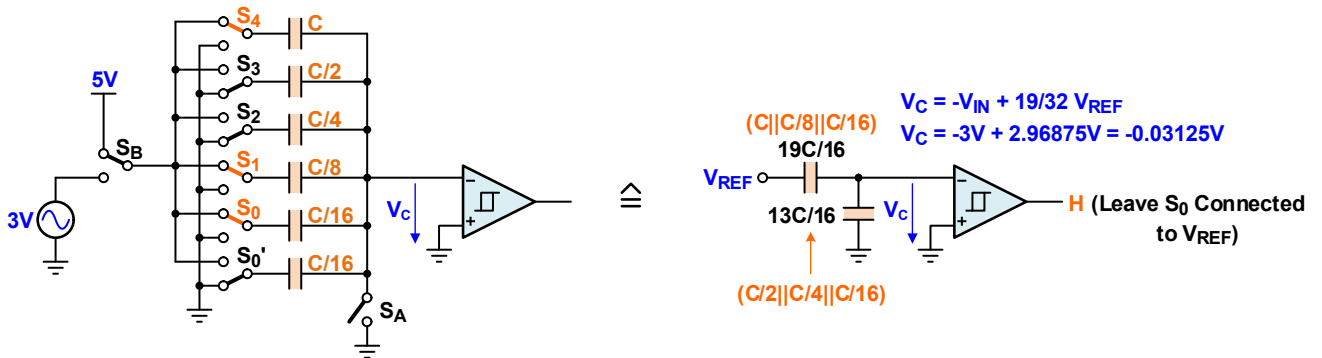

Figure 11. Bit 0: Because  $V_O = H$ , Bit 0 = 1. Therefore,  $S_0$  Must Remain in its Current Position
**Bit 0:** The fifth conversion step determines Bit 0 by connecting  $C/16$  to  $V_{REF}$  using  $S_0$ . The divider ratio changes to  $X = 19/32$ , causing a comparator input of  $V_C = -0.03125V$ . This turns the comparator output high and sets Bit 0 to 1. It also means that  $S_0$  must remain in the present position (Figure 11).